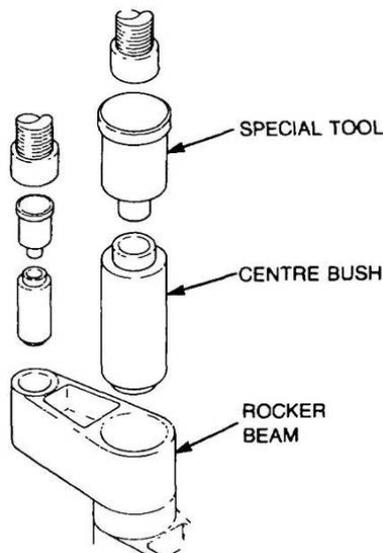

Figure 160 Replacement of the Rocker Beam Centre Bush
- c. Position the rocker beam bush remover adaptor (Table 3, Serial 17) on the centre bush, ensure that the tool is correctly aligned and press the centre bush from the rocker bore (Figure 160).